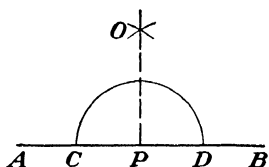

Fig. 121.
a. With P as center, using any convenient radius, draw an arc cutting AB at C and D (see Fig. 121).